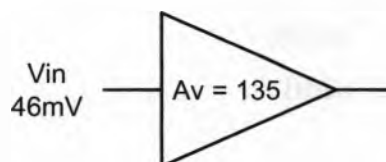

Figure 5
16. What is the output voltage of the amplifier in Figure 5?